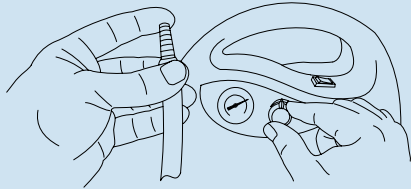
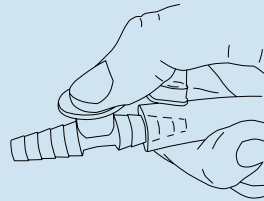

Fig. 19
Fig. 20
2. Keep the opening of the suction tube (fig. 19) and the fingertip (fig. 20) shut.
2. Control the aspiration procedure and the desired vacuum using the additional air opening on the fingertip (fig. 20).